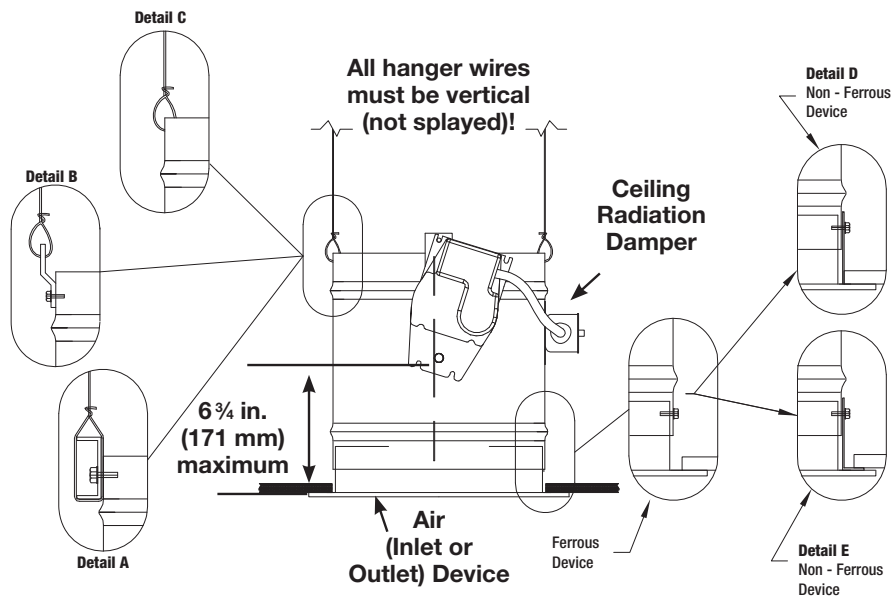

Figure 7
1. Ceiling radiation damper may be connected directly to the air device neck and supported by steel channel (see **Figure 7, Detail A**)
2. Ceiling radiation damper may be connected directly to the air device neck and supported by hanger straps (see **Figure 7, Detail B**).
3. Ceiling radiation damper may be connected directly to the air device neck and supported by direct suspension with wires looped through holes in the damper frame before tying (see **Figure 7, Detail C**).
1. A steel extension should extend from the ceiling radiation damper to the bottom surface of the ceiling membrane (see General Information, Ceiling Penetrations) should be equal to the outside of the steel extension (see **Figure 7, Detail D**).
2. A steel angle should be attached to the bottom of the ceiling radiation damper and span the gap from the ceiling radiation damper to the bottom of the ceiling membrane. the steel angle should overlap the ceiling membrane (see **Figure 7, Detail E**).
Model CRD-501 may be installed as shown in **Figure 7**.